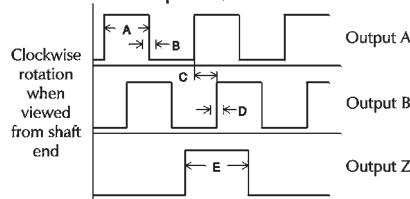

Figure 2
**Output Waveshape:** (See Figure 2)
- Phase jitter (D): 30% max
- Index pulse (E)